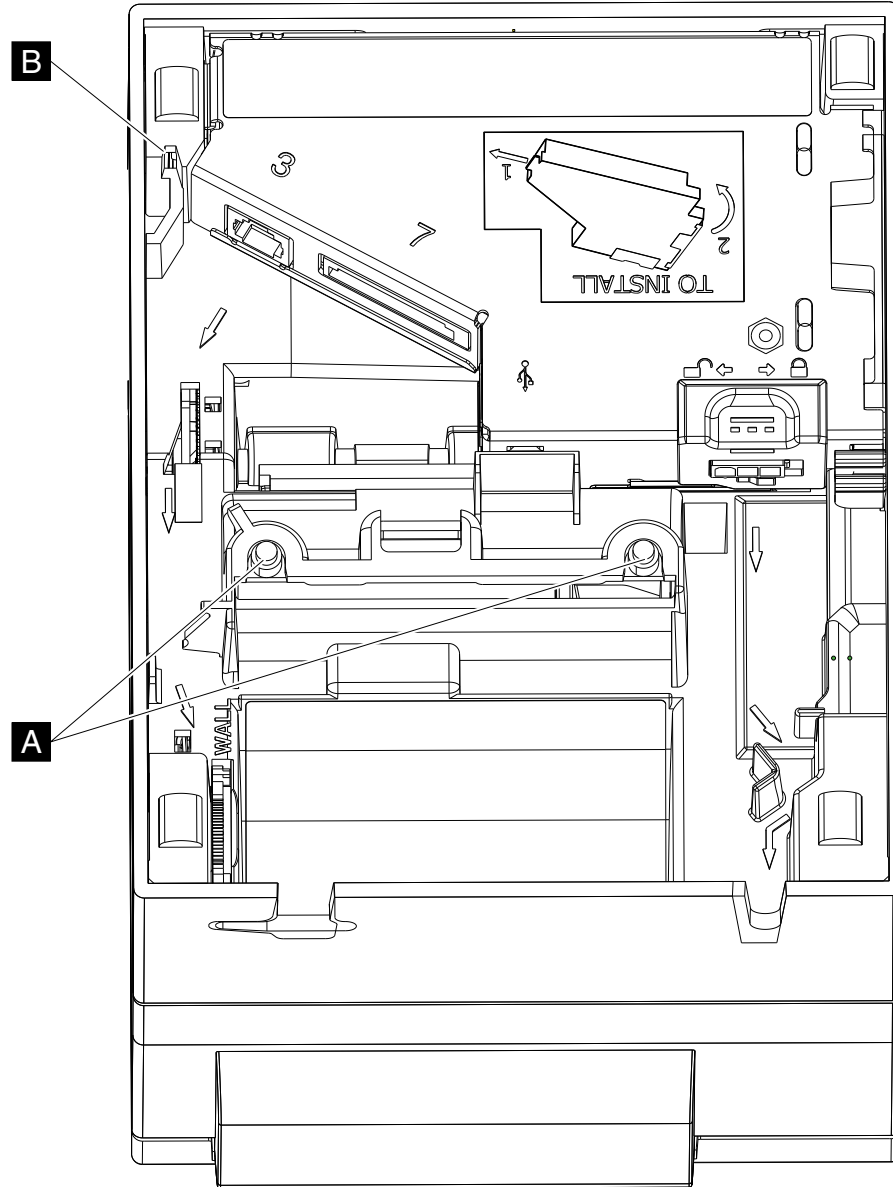

Figure 16. Wall-mount slots
3. Align the two rounded slots on the base of the printer unit (**A** in Figure 16) with the two D-shaped posts on the mount. Also, ensure that the hook near the corner of the mount aligns with the slot at the corner of the printer unit (**B**).